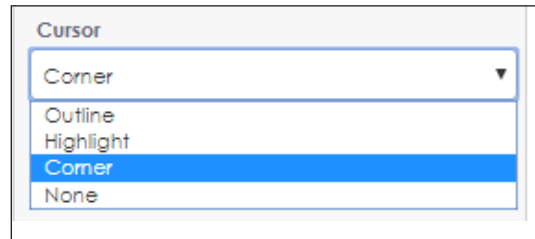

Figure 56: Cursor Options
- Choose how the modules will be shown on the display itself during the adjustment process with the **Cursor** drop-down list. Refer to **Figure 56**.